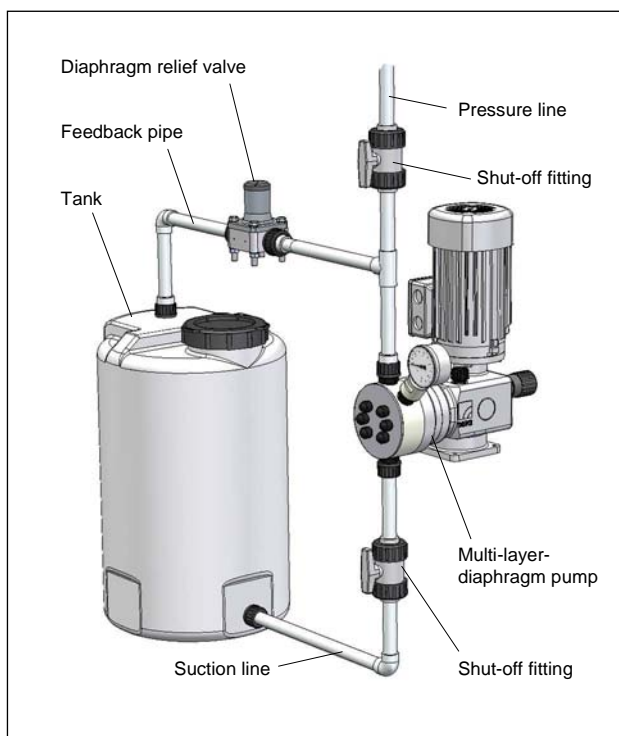

Fig. 20 Installation with diaphragm relief valve (into tank)
- lead the overflow line with descending gradient in the storage tank which is under atmospheric pressure or lead it in an open drain gutter (see Fig. 20).